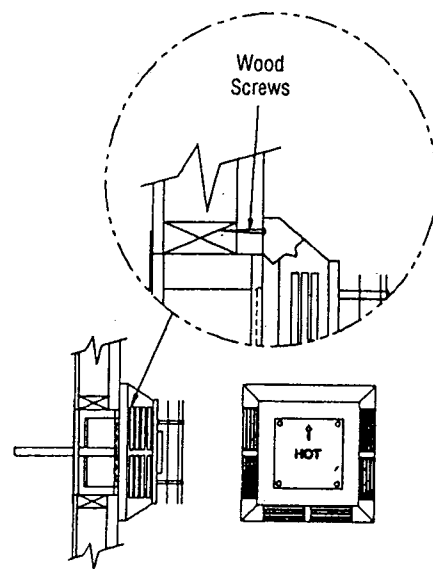

**Figure 19**
C. With the pipe attached to the appliance, slide the appliance into its correct location, and mark the wall for a 10" x 10" square hole. The center of the square hole should line up with the centerline of the horizontal pipe as shown in Figure 19. Cut and frame the 10" square hole in the exterior wall where the vent will be terminated. Install the Wall Thimble (Dura Vent Part No. 942) into the frame opening. If the wall being penetrated is constructed of noncombustible material, i.e. masonry block or concrete, a 7" diameter hole is acceptable, and the Wall Thimble is not needed.